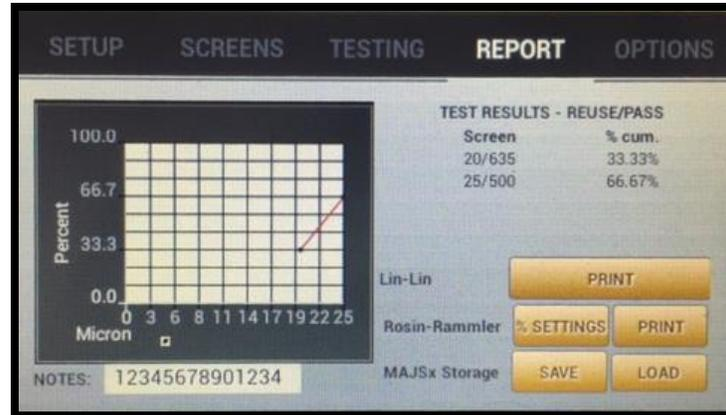

Figure 31
- b) The **On Screen Graph**, located on the left side of the screen, displays the specific percentage/micron values for the analysis. (See Figure 31)